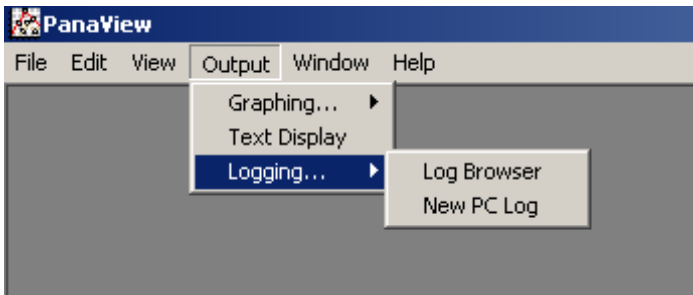

Figure 13: Selections in the logging option
1. Open the output menu (see *Figure 13* below), and click on the *logging* option.
- Pull down the *output* menu (see *Figure 13* on page 32), and click on the *log browser* option. advance to the *PC logs* dialog box as described in previous sections. A screen similar to that shown in *Figure 23* appears.